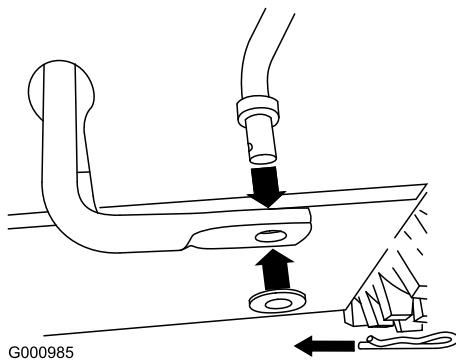

Figure 5
- Remove the hairpin cotter and washer from the lower end of the speed control rod and insert the lower end of the rod into the lower link arm so that the bent end of the speed control rod faces rearward (Figure 5).